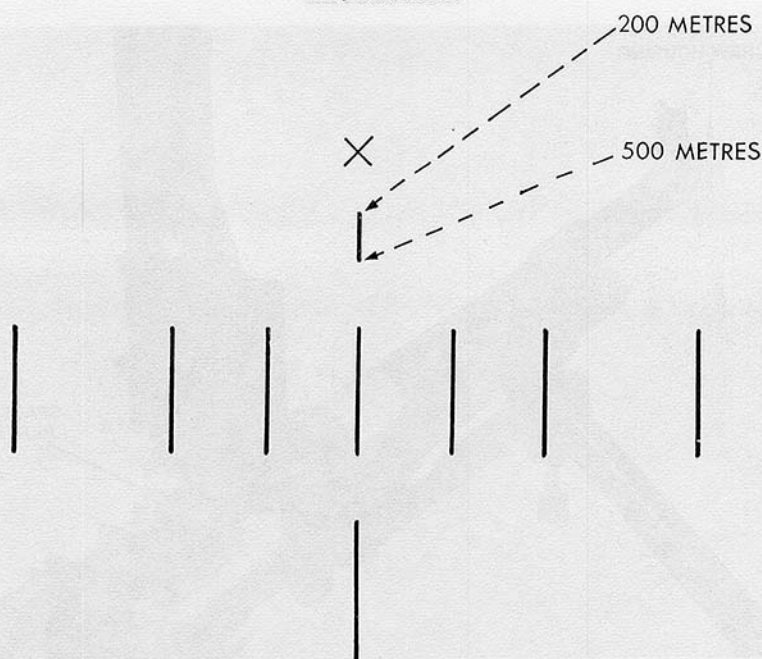

Fig. 48.—The reticle
- f. Using the graticule screws (see Fig. 45.), move the 200 metre aiming point of the pattern (see Fig. 48.), until it is on the same point of aim as the iron sight.